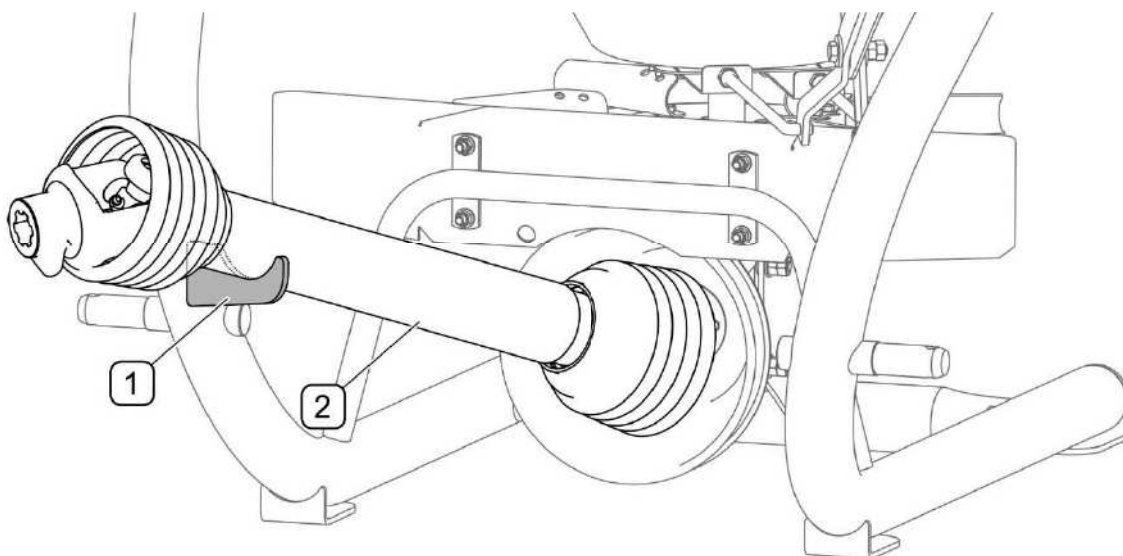

FIG. 4.12 PTO shaft bracket (this applies to FD1-M03 / M05 fertilizer spreaders)
- In case of FD1-M03 / M05 fertilizer spreaders, place PTO shaft on bracket (1) (FIG. 4.12)